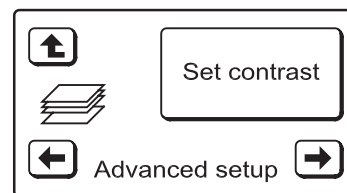

FIG. 27
4. Press the **LEFT (←)** button twice to display the screen shown in Figure 27.